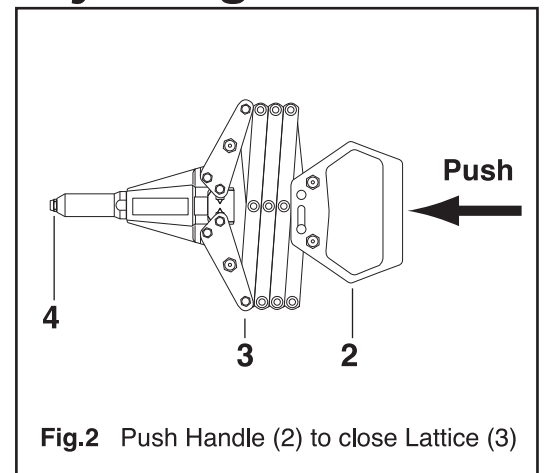

Fig.2 Push Handle (2) to close Lattice (3)
- 2) Push Handle (2) to close Lattice (3) completely (Fig.2) until Rivet Mandrel breaks off. If more than one squeeze is required, pull Handle (2) fully and push again.
- 2) Push Handle (2) to close Lattice (3) completely (Fig.2), unscrew Head (5) and Jaw Case (6), take out Jaws (7), Jaw Pusher (8) and Jaw Pusher Spring (9) to clean or change them.
■ HOW TO CHANGE NOSEPIECE (4):
Push Handle (2) completely to close Lattice (3) firstly (Fig.2), use Wrench (23) to unscrew Nosepieces (4), replace and tighten Nosepieces (4) with Wrench (23).